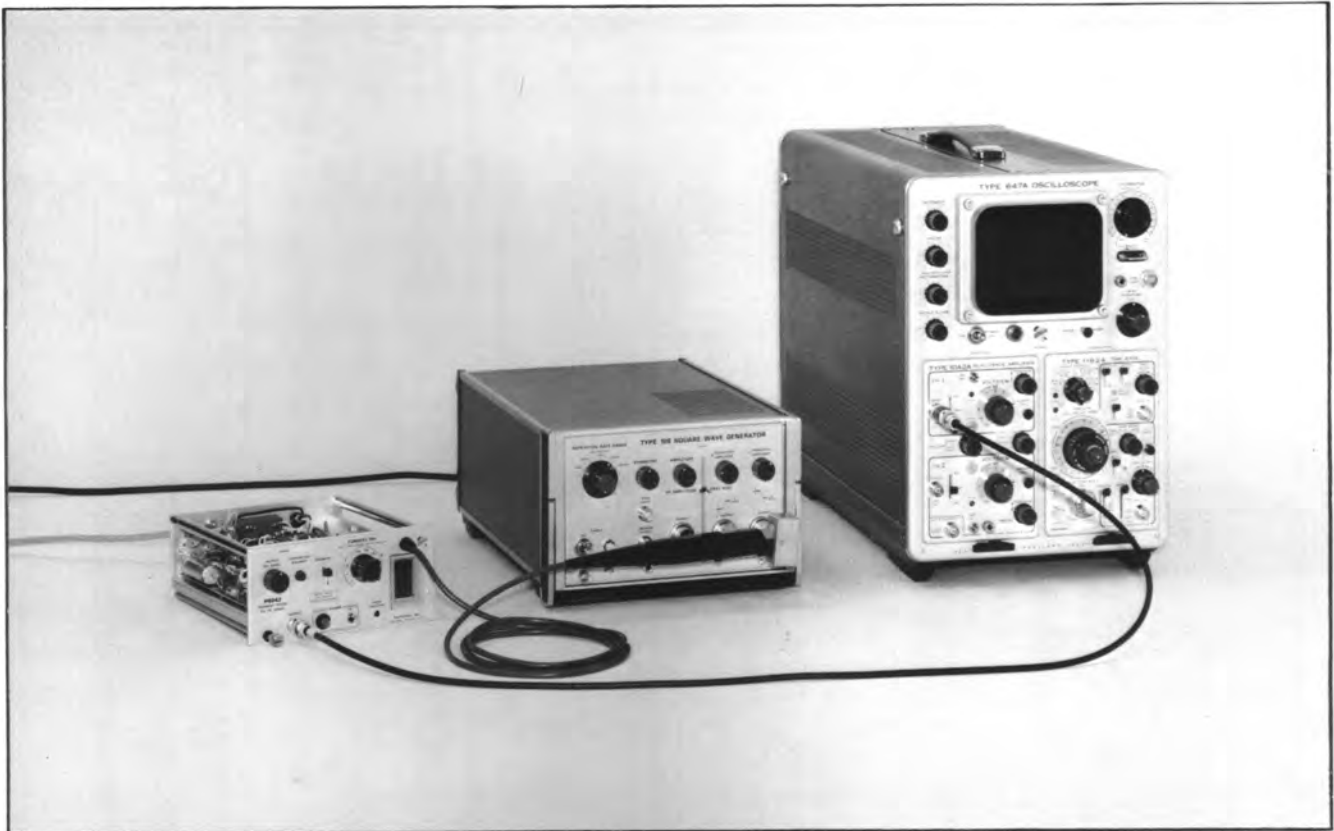

Fig. 6-16. Test setup for step 14.
c. Connect the current loop to the square-wave generator —Transition output. Connect the probe to the current loop. See Fig.6-16.